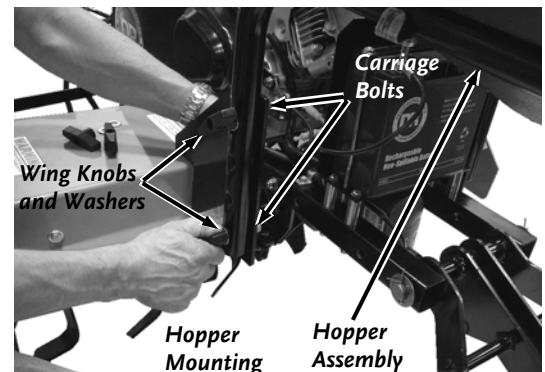

Figure 5
3. Use the top and bottom holes of the Mounting Tubes on the Hopper/Frame assembly to attach the assembly to the Spreader Mount Brackets with four 5/16-18 x 1-3/4" Carriage Bolts (1/2" Wrench), four 5/16" Washers and four Wing Knobs (**Figure 5**). Make sure that the Carriage Bolt square goes fully into the square holes of the Spreader Mount Brackets and the Wing Knobs and Washers are on the Mounting Tube side.